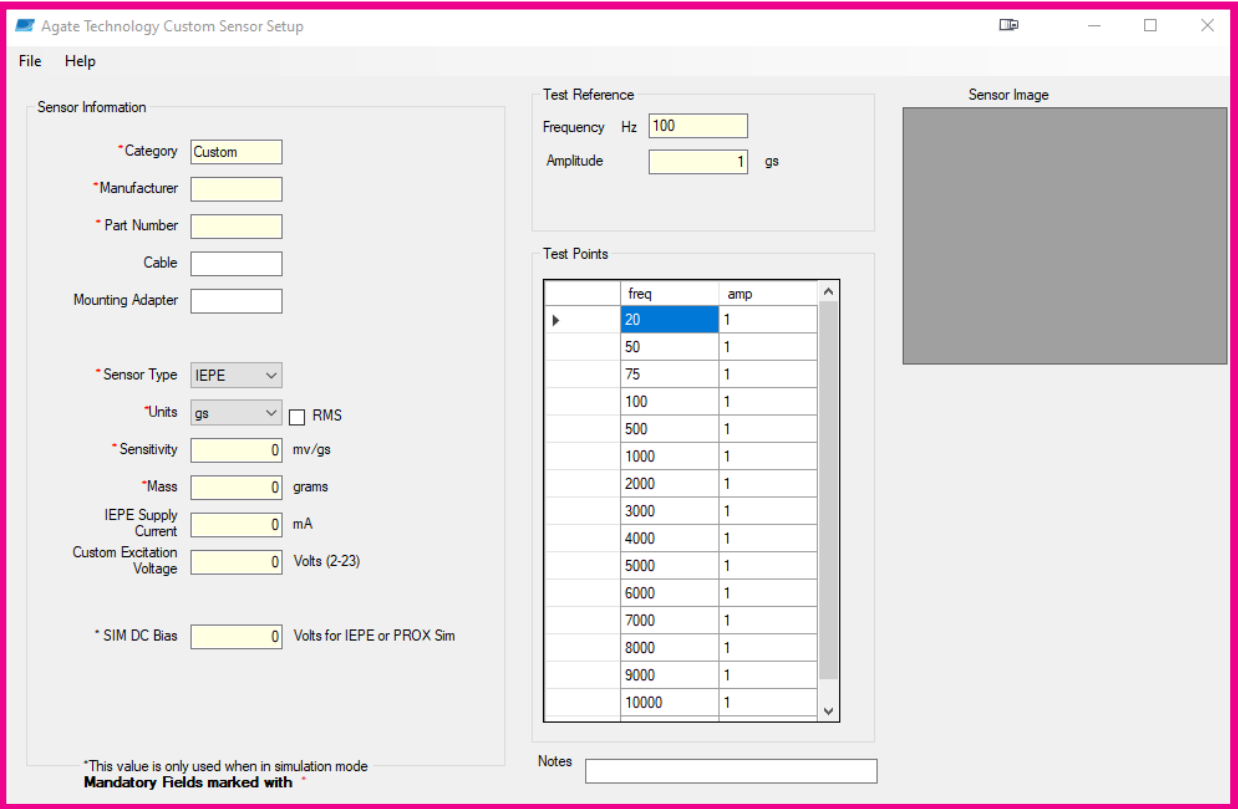

Figure 89. Custom sensor software setup screen *This software is not yet finished being updated*
- 1. Open the Sensor Setup application (saved on the USB memory drive), on your computer (Figure 89).